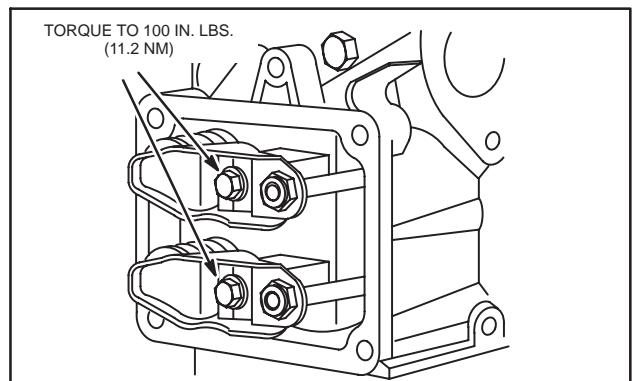

Fig. 21 – Install Rocker Arms
4. Assemble rocker arms and supports to cylinder head, Fig. 21. Apply Loctite® 242 or similar sealant to threads.